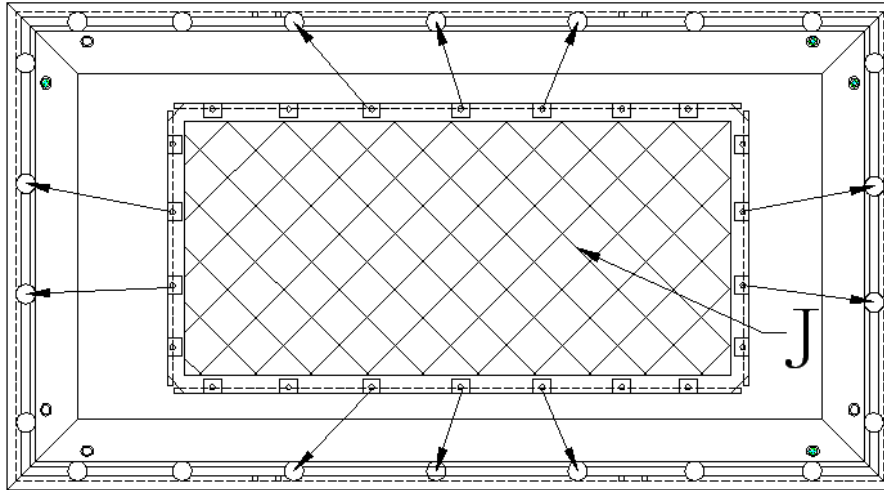

Fig. 7
2. Repeat the same procedure above to the top and bottom sides as shown on Fig. 7.